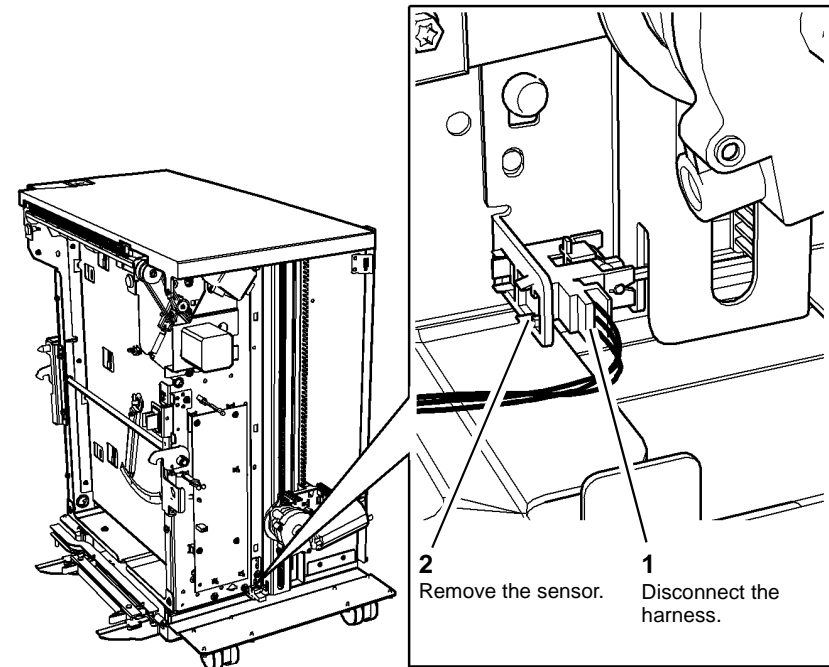

Figure 1 Sensor removal
2. Remove the tray 5 down sensor, Figure 1.